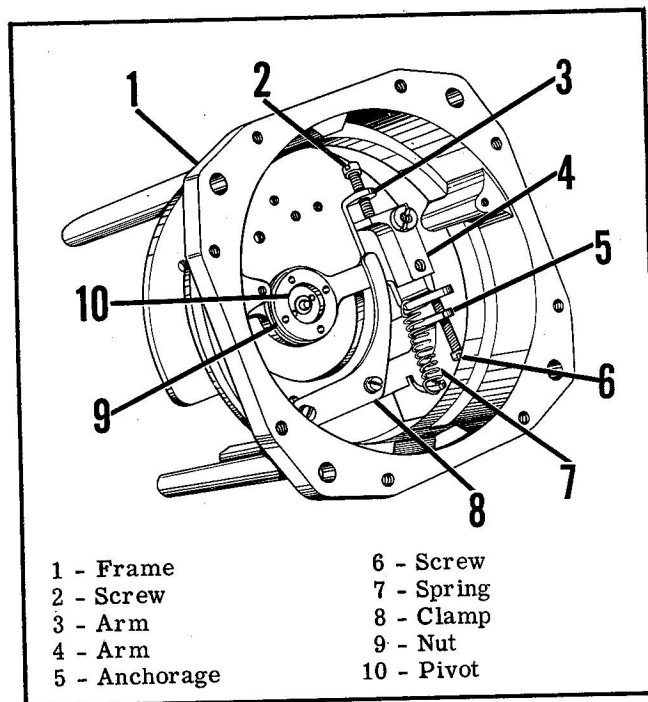

Figure 2-6. Frame Assembly
k. Remove restraining spring (108) from the frame assembly. (See figure 2-6 for illustration of complete assembly.) Remove two screws (110), and lift off clamp (109), and zeroing screw anchorage (112). Remove lock nut (114), and lift off pointer zeroing arm. Remove one screw (116), and remove pivot (115), and sensitive adjust arm (117) from the pointer zeroing arm.
l. Remove bumpers (121), and bumper stops (122). Remove gasket (107).
2-29. REASSEMBLY OF FRAME ASSEMBLY. (See figure 2-6 for illustration of complete assembly.)